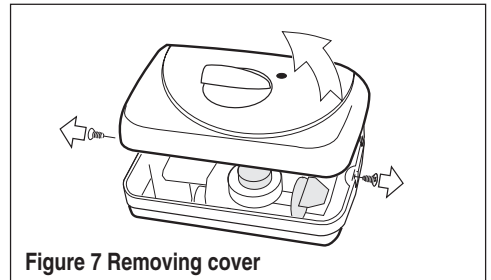

Figure 7 Removing cover
3.6 Allow room around the shower heater for removal of the front cover - see Fig. 7 & 8.